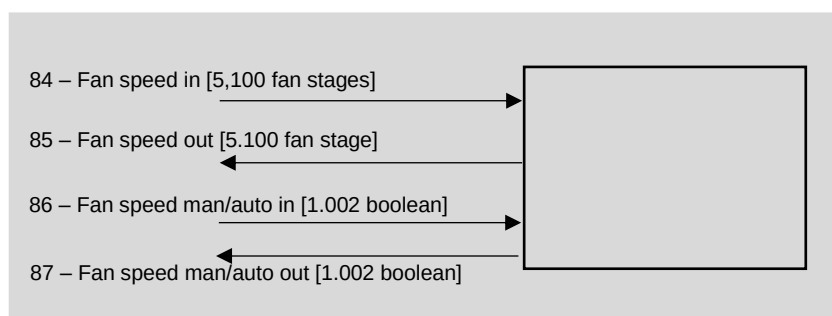

Figure 12 - Remote fan speed adjustment
The group objects shown in the block diagram of Figure 12 allow the actual fan speed to be monitored; this is set automatically (A) by the temperature controller or manually on-site by the user via the touch buttons. The group objects (hereinafter ‘O.C.’) also allow the same adjustments to be made remotely, for example via a system supervisor.